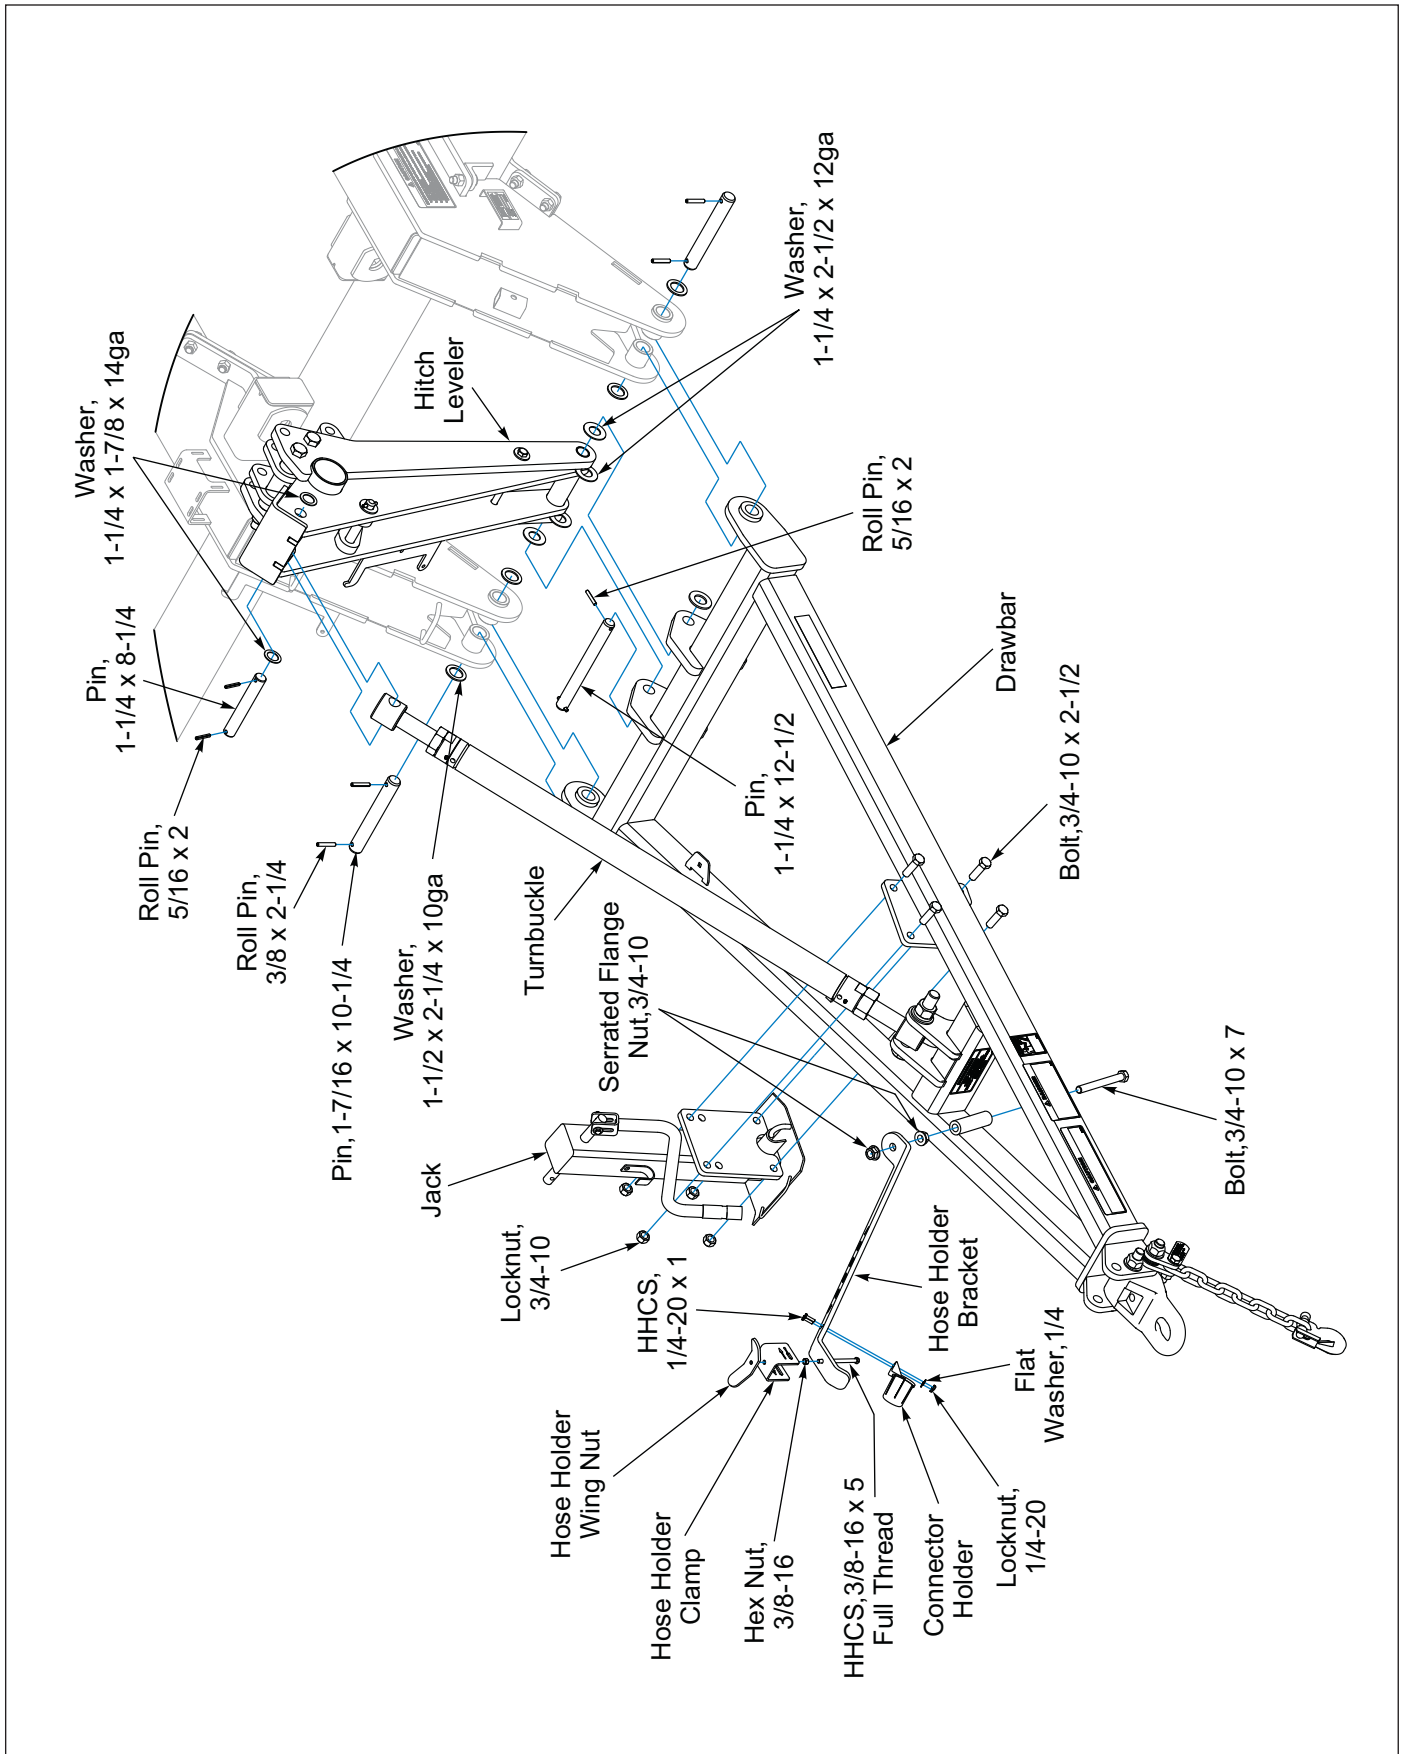

Figure 2-9: Drawbar Installation
1. Attach the bottom of the Hitch Leveler to the Drawbar by removing the 5/16 x 2 Roll Pin, 1-1/4 x 2-1/2 12ga Washer and 1-1/4 x 12-1/2 Pin. Position the Hitch Leveler between the center lugs and reinstall the 1-1/4 x 12-1/2 Pin, 1-1/4 x 2-1/2 12ga Washer and 1-1/4 x 2 Roll Pin. **See Figure 2-9.**
3. Attach Hoses to Counter Balance Valve. Route the Hoses to the right side of the Drawbar and clamp each set of system's hoses with hose clamps. Secure with Flat Washer under the head of 3/8-16 x 5 Bolt and Locknut. Continue routing the hoses to the front of the Drawbar up the Hose Holder Bracket. If not already done, install 3/8-16 x 5 Bolt onto Hose Holder Bracket with Hex Nut. Place the Hose Holder Clamp over the bolt and hoses. Secure with Hose Holder Wing Nut. **See Figures 2-9 and 2-25.**